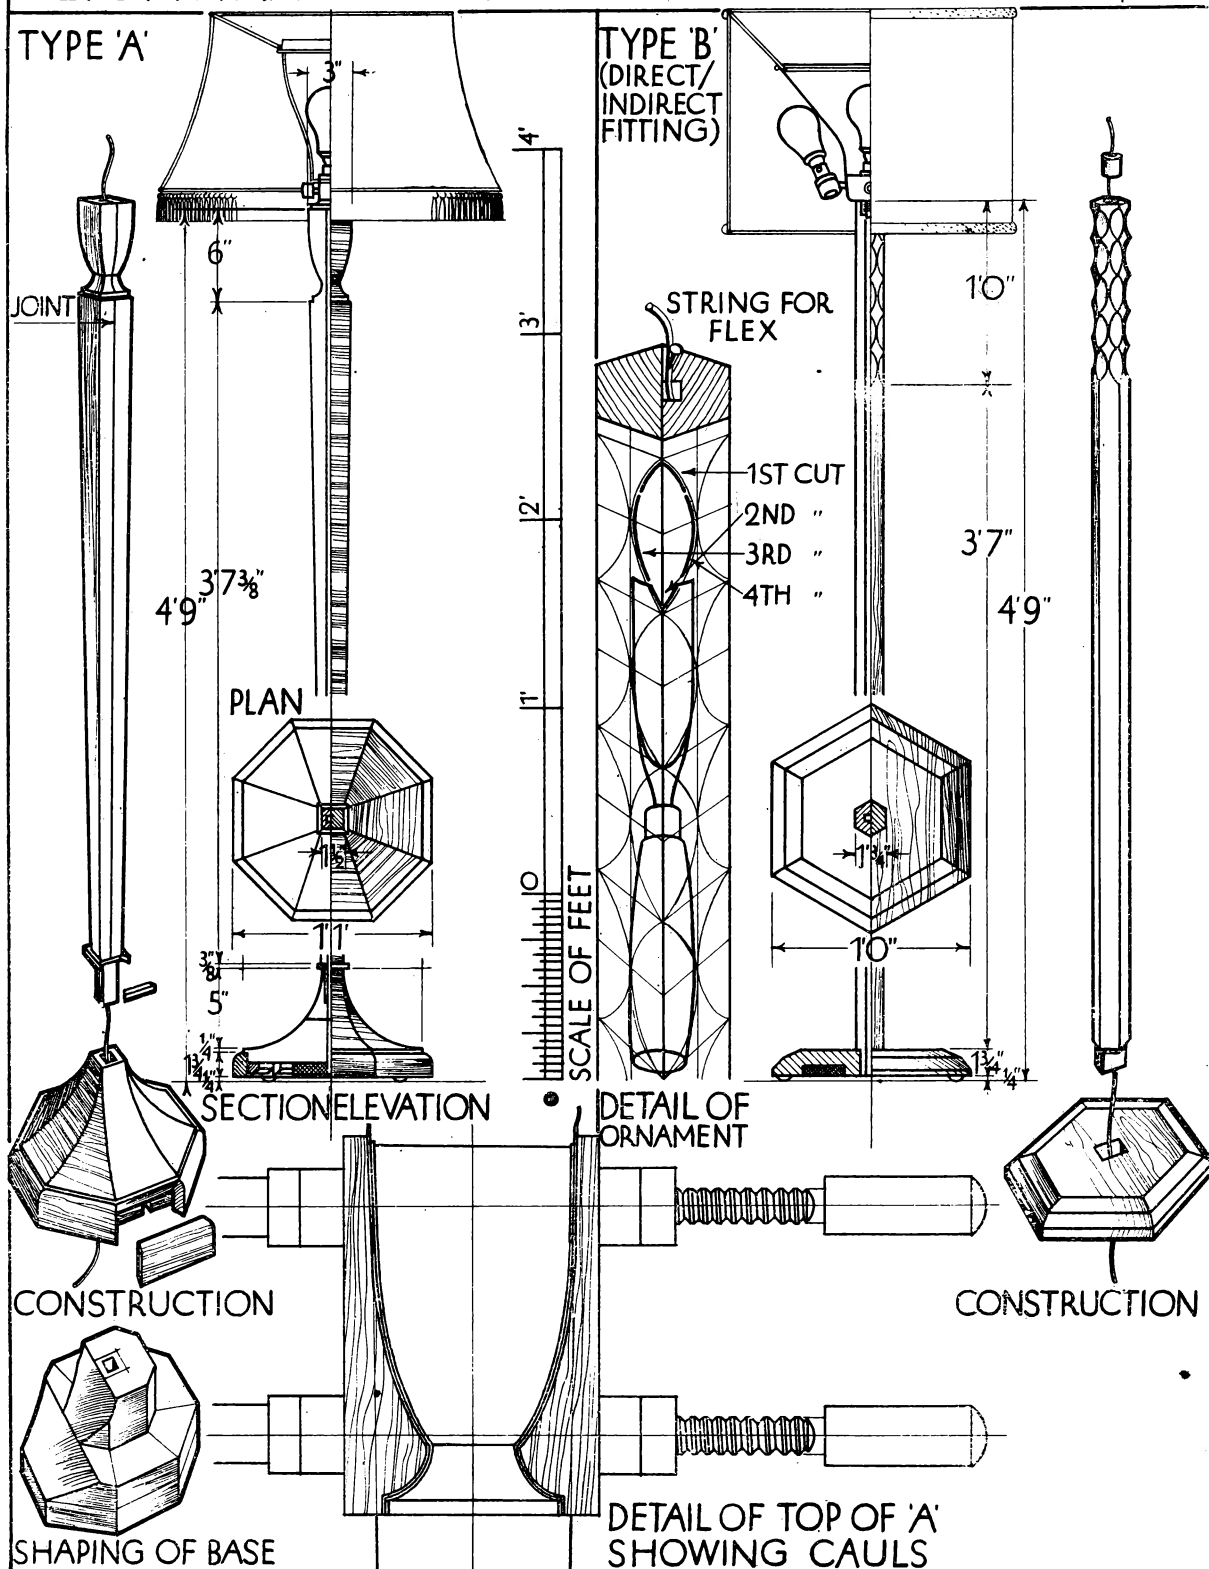

FIG. 2. DIMENSIONED ELEVATIONS WITH SCALE, AND DETAILS OF CONSTRUCTION.
**Carcase.**—Dealing first with the two framed ends, the strongest construction is to tenon the three rails (B) to the stiles (A). In a less pretentious way the joints may be halving ones as shown (Fig. 2). Before screwing, however, tongue in the drawer guides (D) to which the runners (C) are screwed from below. Note that the runners are cut to fit around stiles, and that at front they are sawn short to allow for the thickness of drawer front. Test both ends for squareness and see that both are exactly alike.